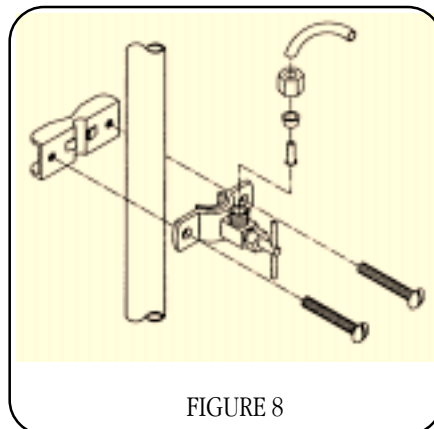

FIGURE 8
- b) Install the saddle tapping valve on the COLD water copper tubing so the outlet is in a convenient direction. See figure 8.